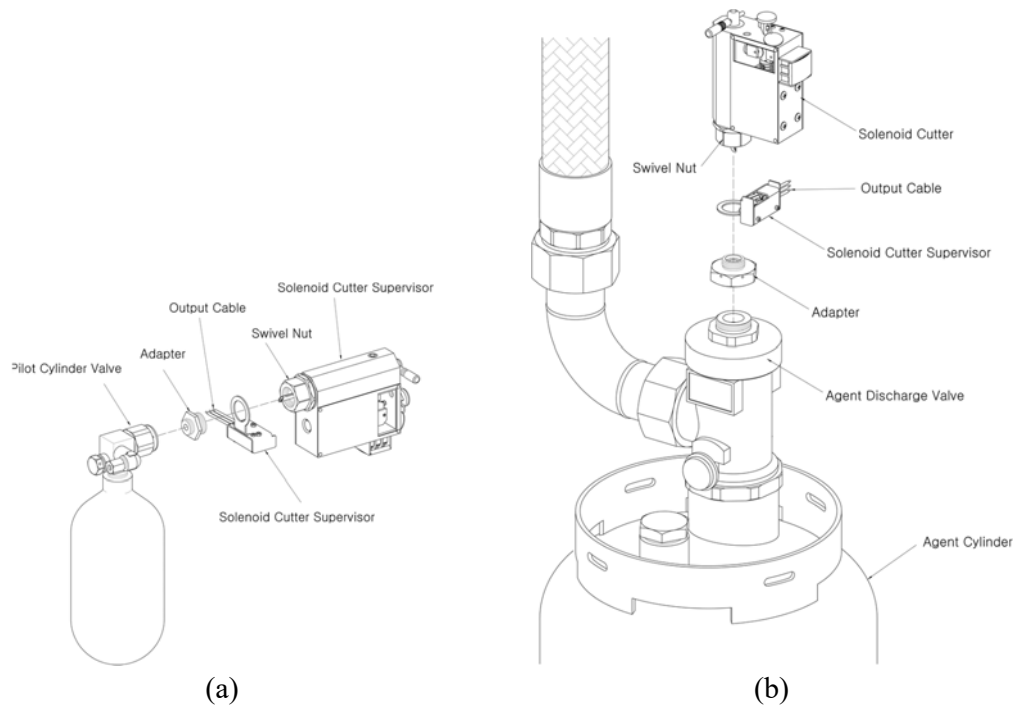

Figure 4.18. Installation of Solenoid Cutter Supervisor in (a) pilot cylinder (b) agent discharge valve
1. Referring to Figure 4.18, mount the adapter to the corresponding valve and hand-tighten it.
2. Mount the Solenoid Cutter Supervisor onto the adapter with the switch facing the solenoid cutter as shown in Figure 4.18.
6. Mount the Solenoid Cutter Supervisor onto the adapter with the switch facing the solenoid cutter as shown in Figure 4.18.